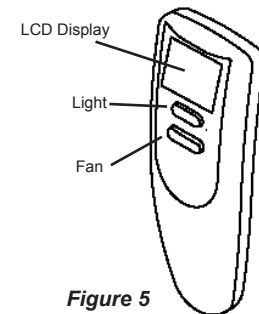

Figure 5
• ON and OFF: Press and quickly release the light button on the hand-held remote to turn the light OFF and ON. See Figure 5 for remote button locations.